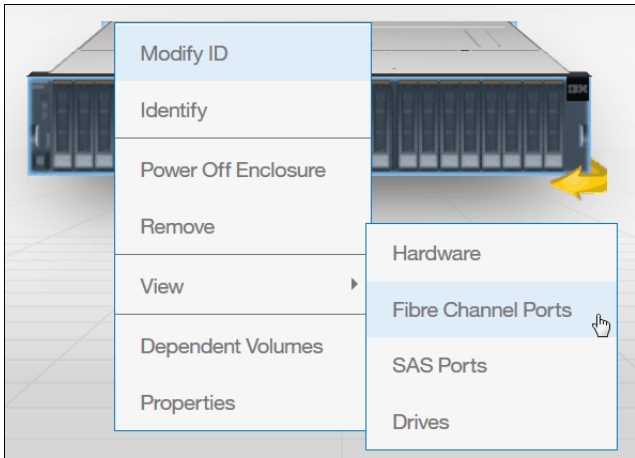

Figure 3-27 Canister details and vital product data
Additionally, from the System pane, you can get an overview (View) of the hardware, available ports and status for Fibre Channel (FC) and serial-attached SCSI (SAS) ports and Drives (Figure 3-27).